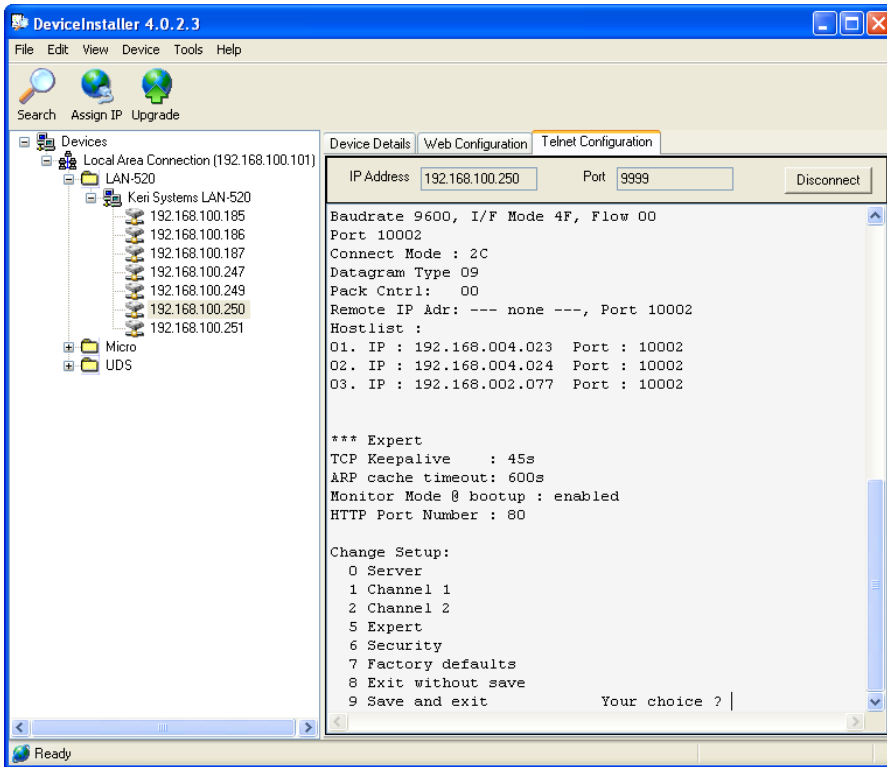

Figure 4: Telnet Configuration Main Window
2. Once Telnet connects with the LAN-520X all current configuration information is displayed and the cursor is placed at the "Your choice" field (see Figure 4 on page 5).
2. Once Telnet connects with the LAN-520X all current configuration information is displayed and the cursor is placed at the “Your choice” field (see Figure 4 on page 5).